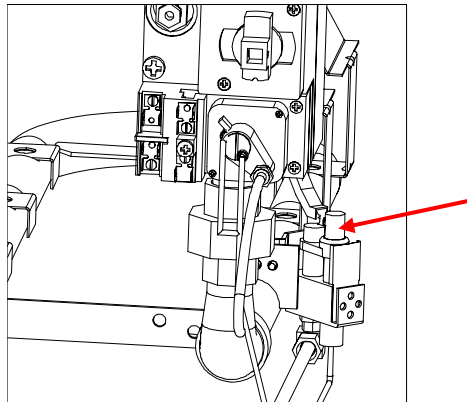

Figure 2
2. Pull out on the retaining clip holding the cartridge. Push down on cartridge and remove from the pilot assembly. See Figure 2.